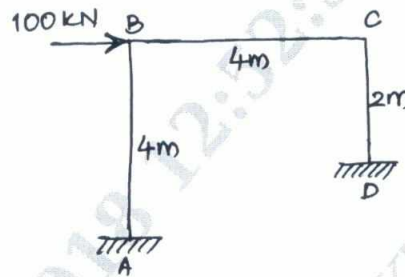

Fig.Q.4
- 4 Analyze the rigid frame shown in Fig.Q.4 by moment distribution method and draw BMD. (16 Marks)